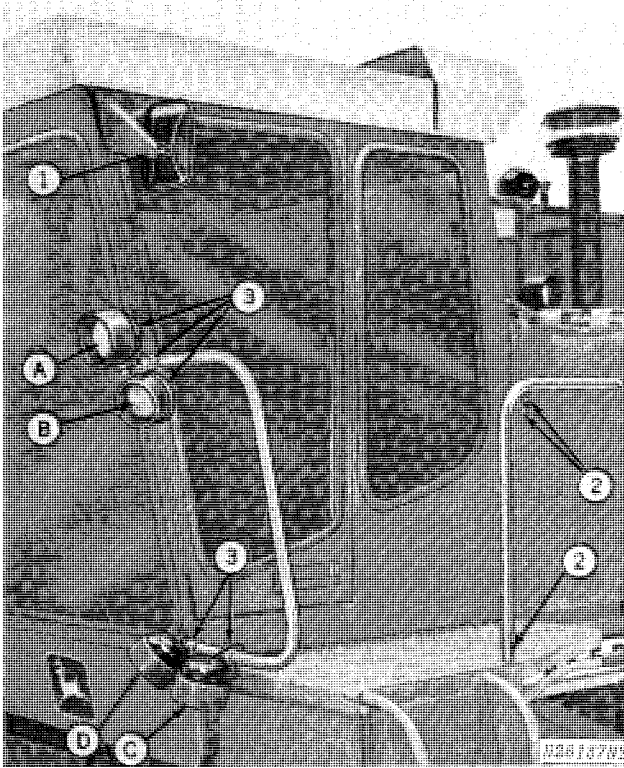

Fig. 13-Installing Cab Mirror, Lights, and Handrails
1. Attach mirror to mounting bracket with a 1/4 x 3/4-inch cap screw (Fig. 13).
2. Attach rear handrail to grain tank with two 3/8 x 1-inch cap screws, lock washer and nuts (Fig. 13).
Attach rear handrail to ladder landing with one 3/8 x 1-inch cap screw, lock washer and nut (Fig. 13).
3. Attach each of the four lights to the front handrail with two clamp halves, one 1/2 x 2-inch cap screw and lock washer (Fig. 13).
4. Attach front handrail with lights to cab with three 3/8 x 3/4-inch cap screws and lock washers (Fig. 13).
5. Insert rubber grommet in panel and thread wires through grommet (Fig. 13).